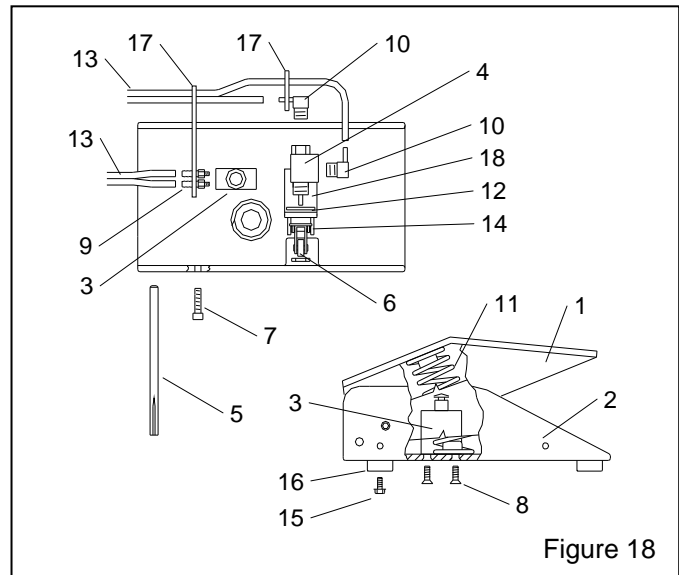

Figure 18
9.5 Foot Pedal Assembly, Figure 18